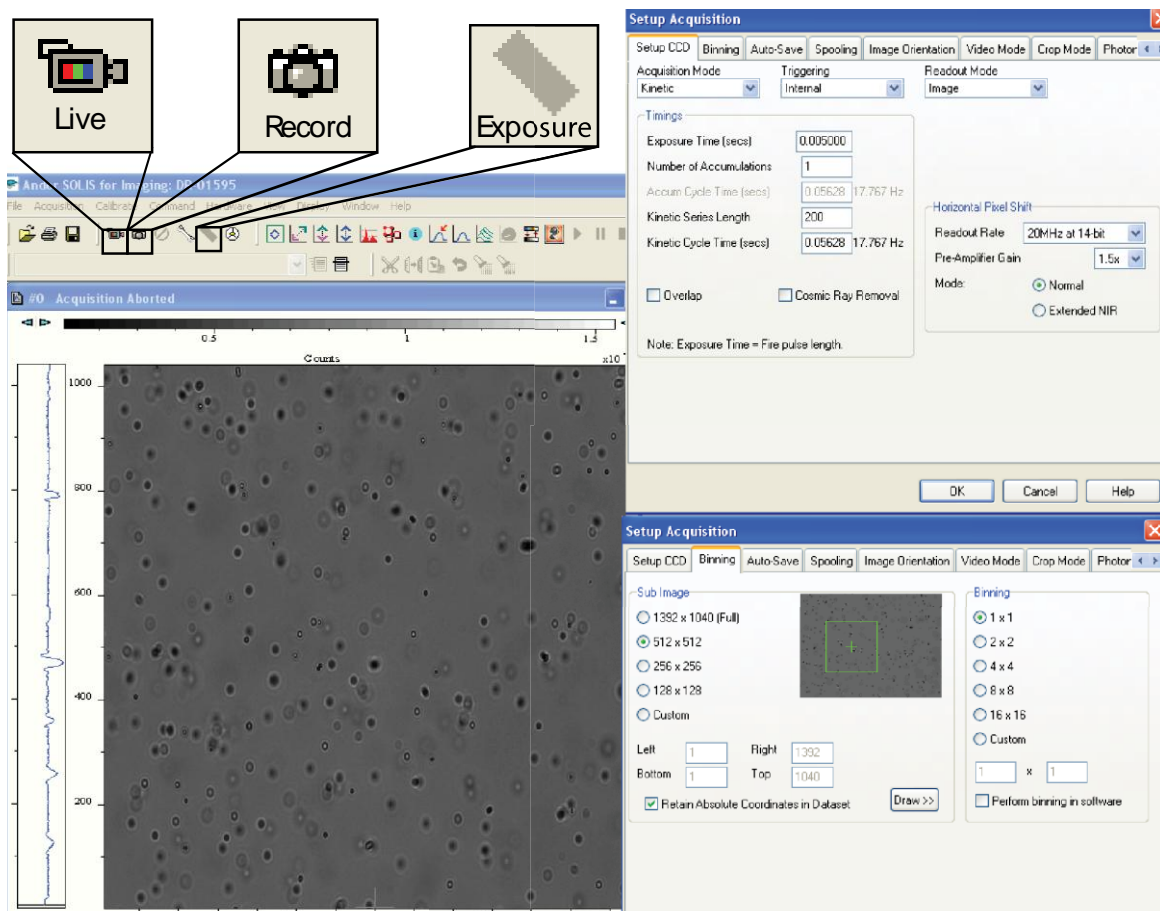

Figure 7. Andor Solis program for data acquisition. Bright field image of 0.97  $\mu\text{m}$  beads.
- 6) Set up the exposure time to 0.05s \*by pressing exposure button (Figure 7).